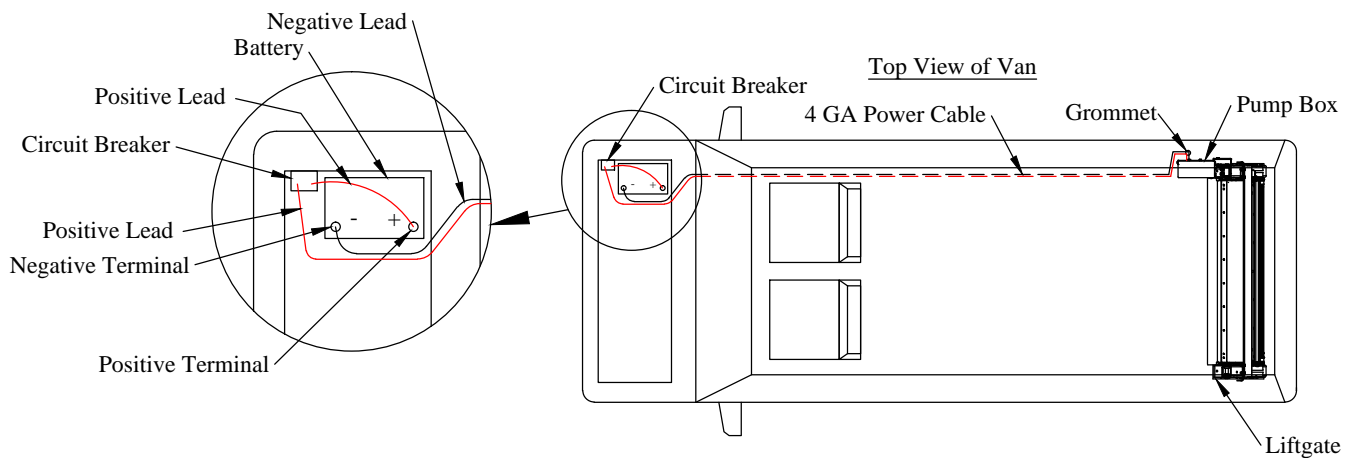

Figure 15: Electrical routing.
1. **Install** the circuit breaker on the vehicle fender, firewall, or other location inside the engine compartment away from moving parts. Leave enough room for the power cables to be installed and so that the circuit breaker can easily be reset (Figure 15).
4. **Route** the power cables under the vehicle from the liftgate, along the frame, to a location near the battery (Figure 15).